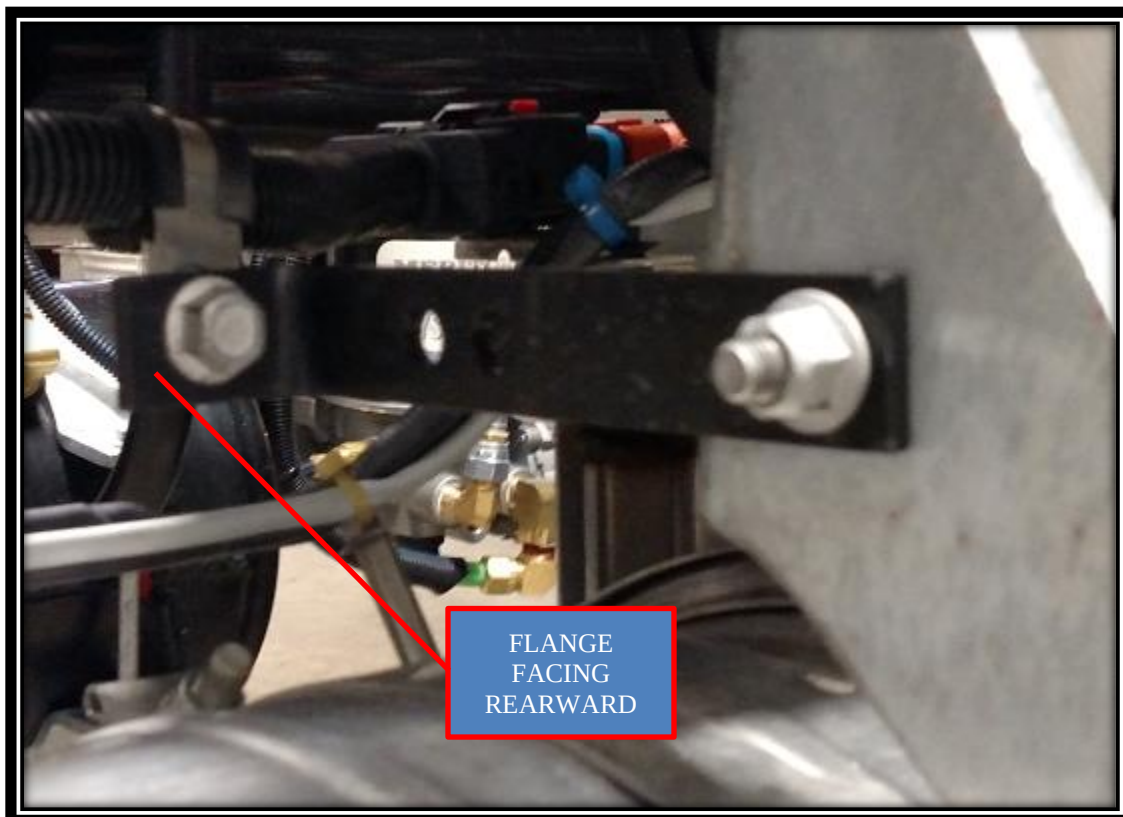

FIG 3.1
2. Using provided hardware, bolt standoff bracket to exhaust support bracket. Mounting bracket horizontal, with short flange of bracket facing rearward of vehicle, and torque 27-34 lbf-ft. Refer to FIG. 3.1.